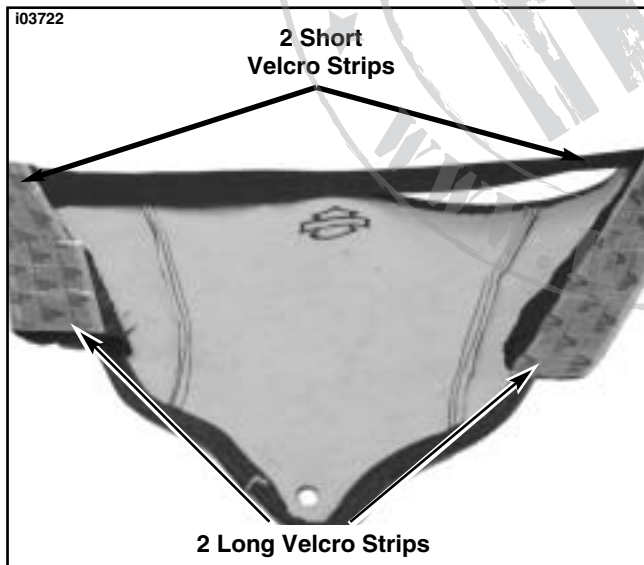

Figure 1. Pre-Install Velcro Strips to Bra
1. See Figure 1. Pre-install the four Velcro® hook strips (2 short and 2 long) onto the corresponding short and long Velcro® loop strips pre-sewn onto the nylon flaps on the airbox cover bra. Center the hook strips on their mating loop strips in front-to-back direction. Align long edge of hook strips with the inside (bra side) edge of the mating sewn-in loop strips so the extra width of the adhesive-backed hook strips is away from the bra.